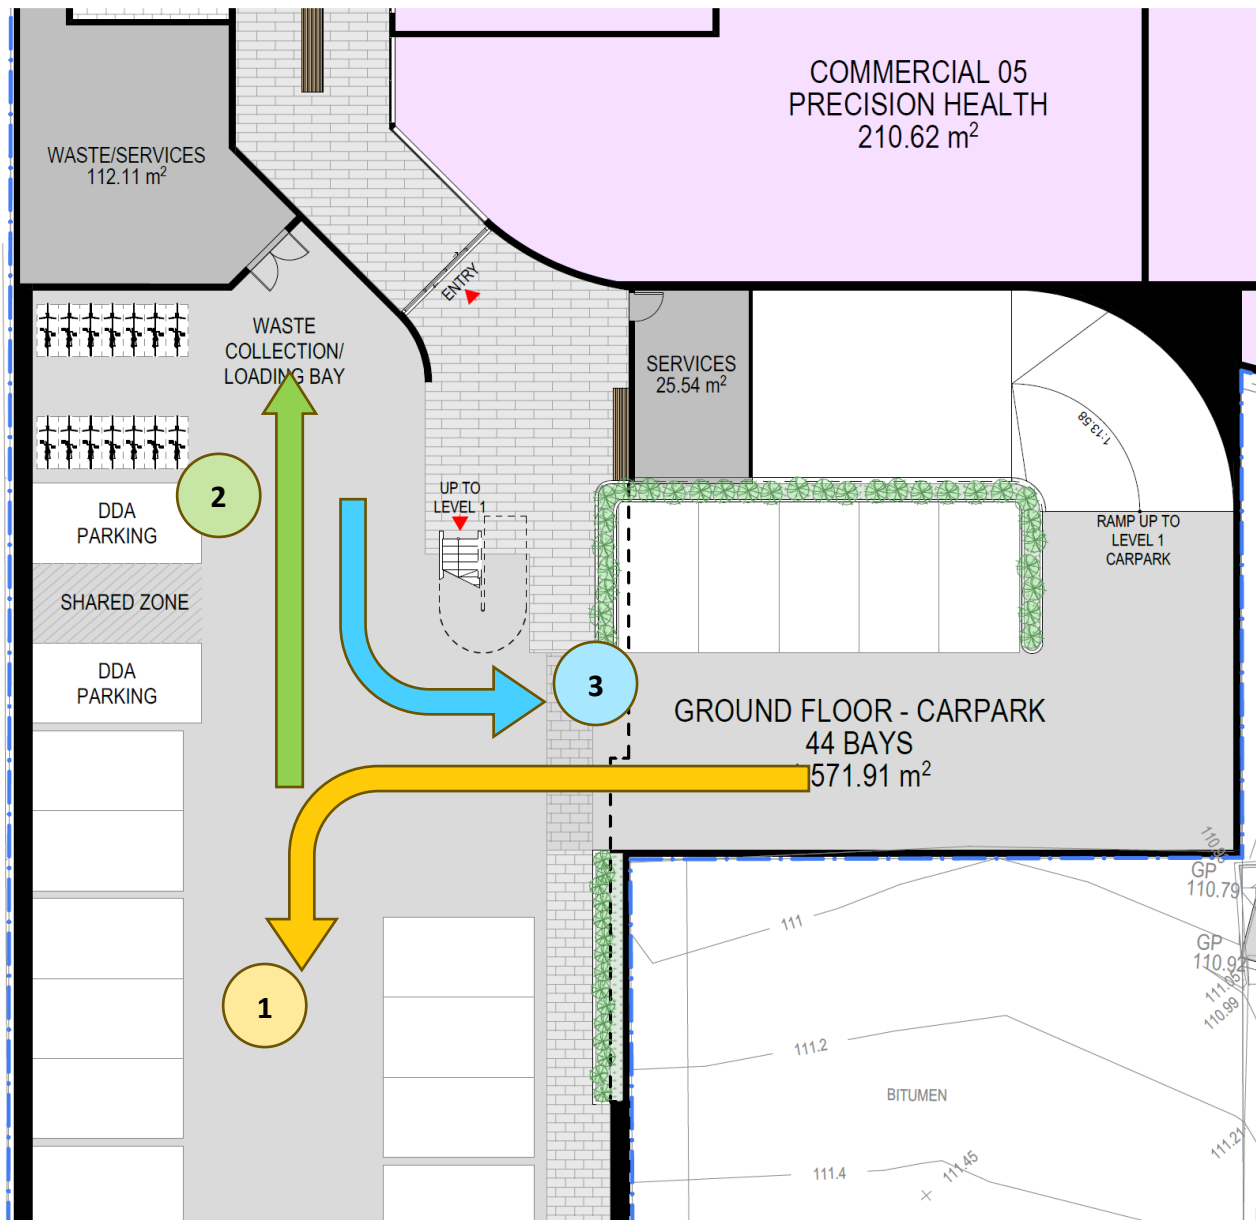

Figure 3: Bin Collection Arrangements – Manoeuvres by Small Garbage Truck
2. The collection will take place fully within the site, by a private contractor, from an area located adjacent to the ground floor Bin Room, as shown in Figure 3. The travel path to this area has sufficient vertical clearance. The floor-to-floor height is 3.9 metres for Ground-Floor to First-Floor and 3.6 metres for First-Floor to Second-Floor. These dimensions are well above the minimum required.
The truck waste collection arrangements are shown in Figure 3.